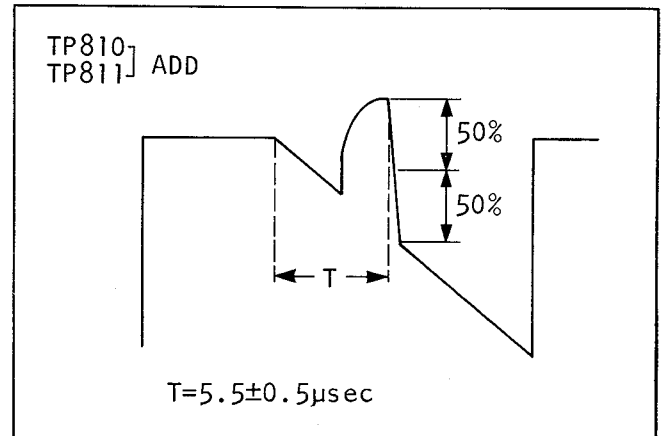

Fig.E53. AFC
4. Adjust the AFC ADJ (R869) on the same board so the phase relationship between TP810 and TP811 are as shown in Fig.E53.